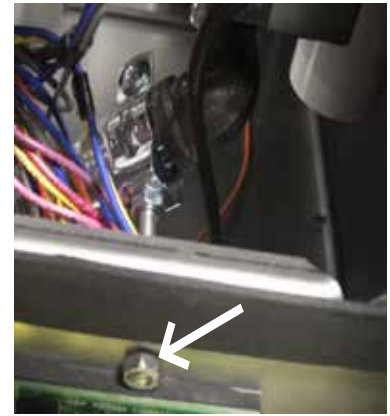

Figure 4
8. (Sizes 150 & 180 only) Remove front hex nut that secures gas line shipping clamp (if present) to lower section of vestibule frame (Figure 4).